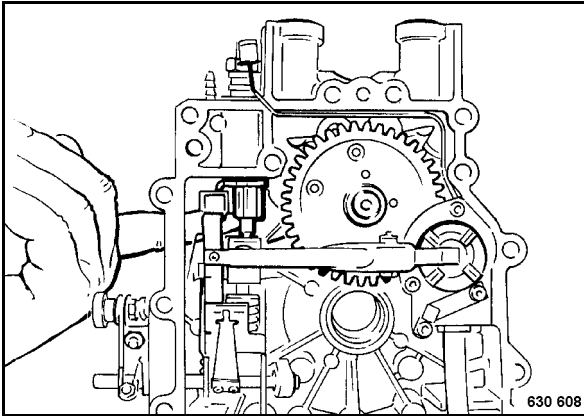

Fig. 84
- Press the pump element (Fig. 84) up with your finger through the opening on the side and lift it out with a magnetic rod.